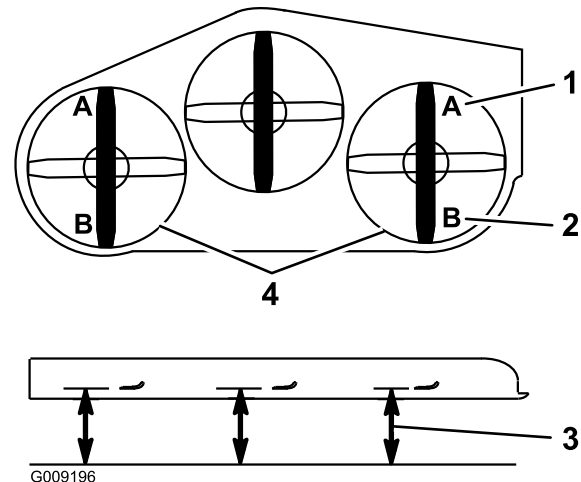

Figure 86
9. On both sides of the deck, measure from the level surface to the front tip of the blade (Position A). The measurement should read 7.6 mm (3 inches) (Figure 86).
15. On both sides of the deck, measure from the level surface to the back tip of the blade (Position B). The measurement should read 8.3 cm (3 1/4 inches) (Figure 86).